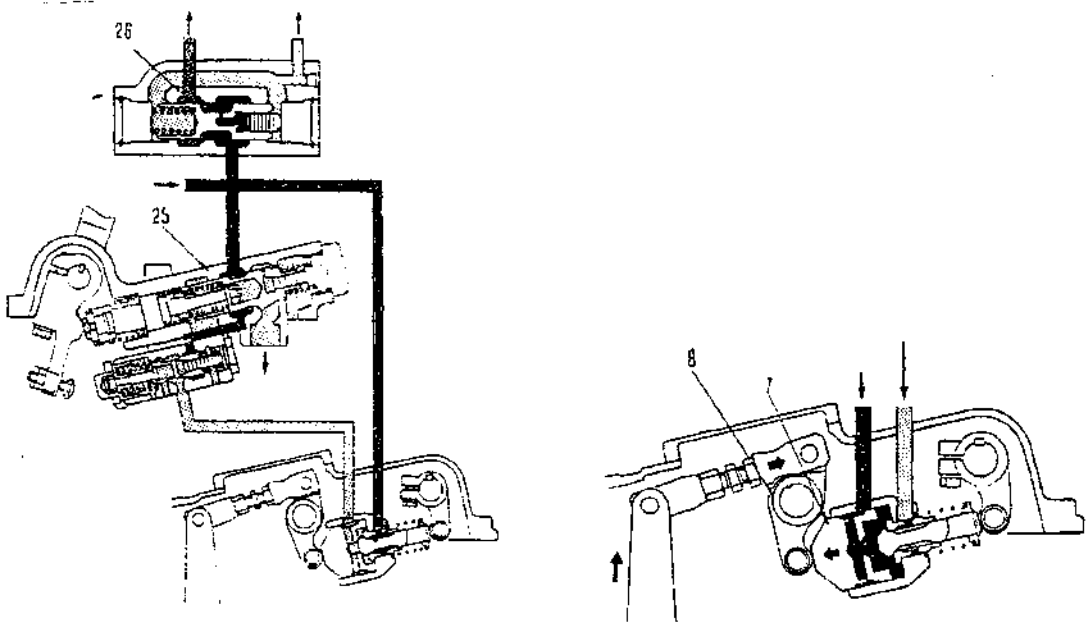

Fig. 2-77
When brake is released; There are two oil lines which flow from steering pump. One oil line flows from the steering pump to port A and another oil line flows directly to port B through steering valve. Because the steering lever is not pulled, so interlock control valve does not move. The passage to port A is also closed, so the oil only flows to port B, then through orifice "a" flows to port C. However, the brake pedal is not being depressed, so the passage between port C and port D is shut off. As a result, the oil pressure rises and when it exceeds the setting pressure of the main regulator valve (26), the oil flows to the torque converter. At this time, the normal oil pressure valve in the circuit is 2.16MPa, as shown in Fig 2-77.